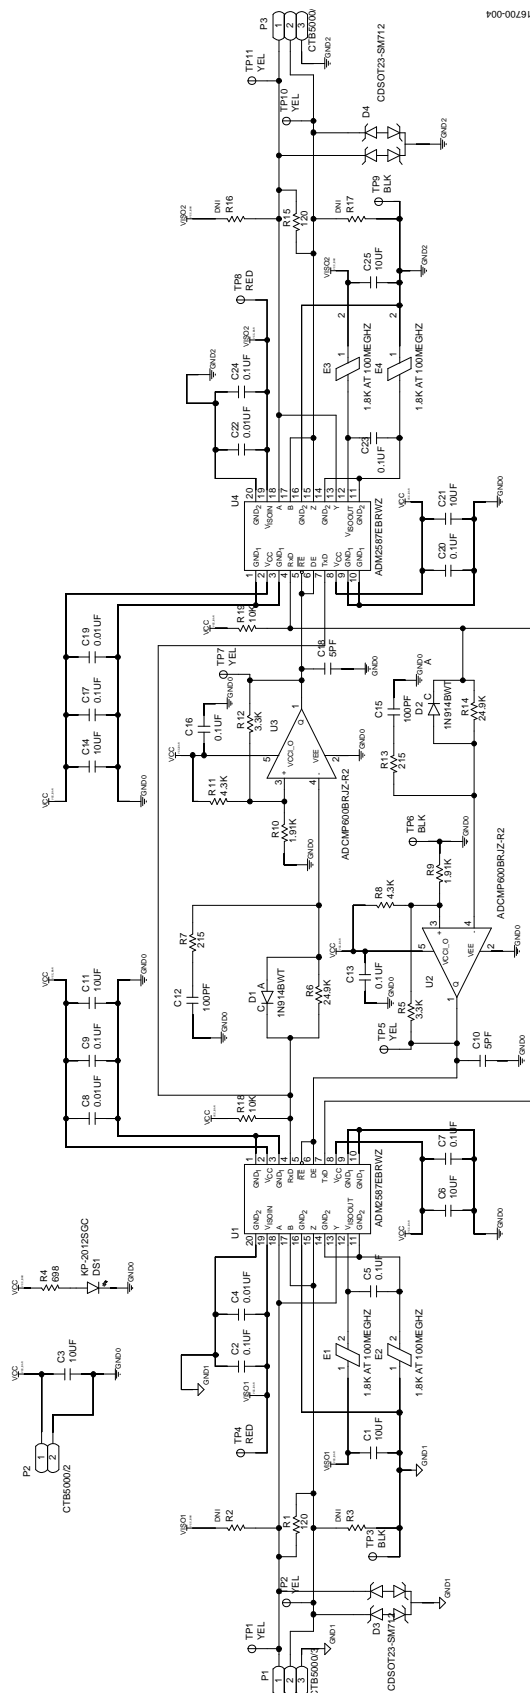

Figure 4. Schematic of the EVAL-ADM2587EEB1Z Evaluation Board
1. Ensure that there is sufficient decoupling on the PCB. Use the decoupling capacitors recommended in Figure 4.